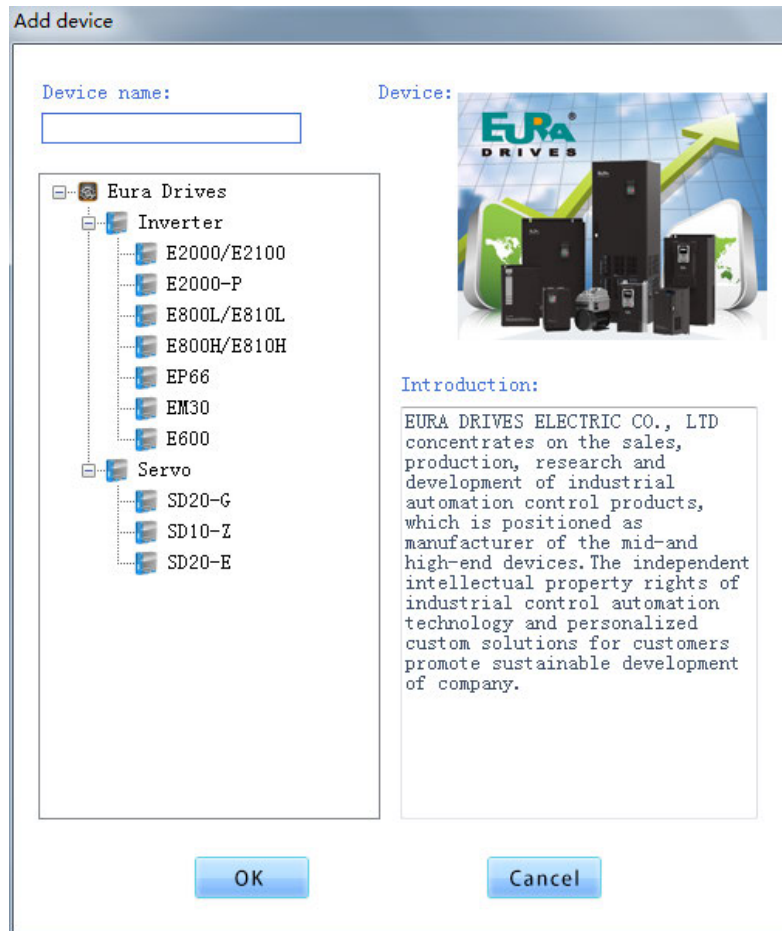

Fig 3-3 New Project Interface
- ① Minimize button ② Close button ③ Toolbar ④ Program main function zone
⑤ Feature bar shortcut
3. Create new project, user clicks [Project] → [New Project], enter project name firstly, popup new project window after [Save](Fig 3-3);